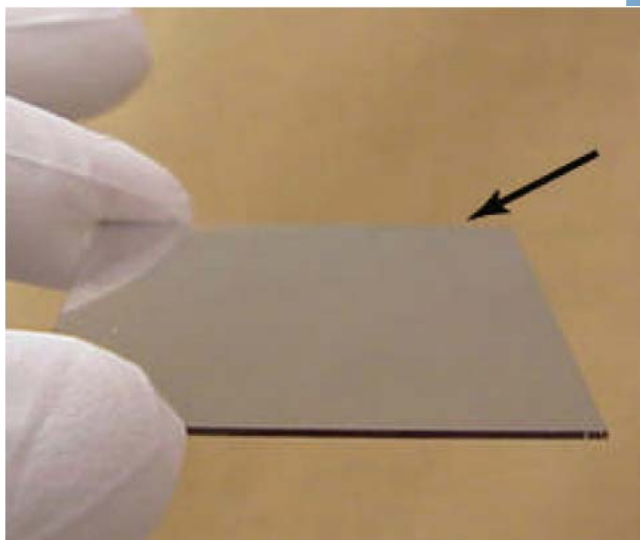
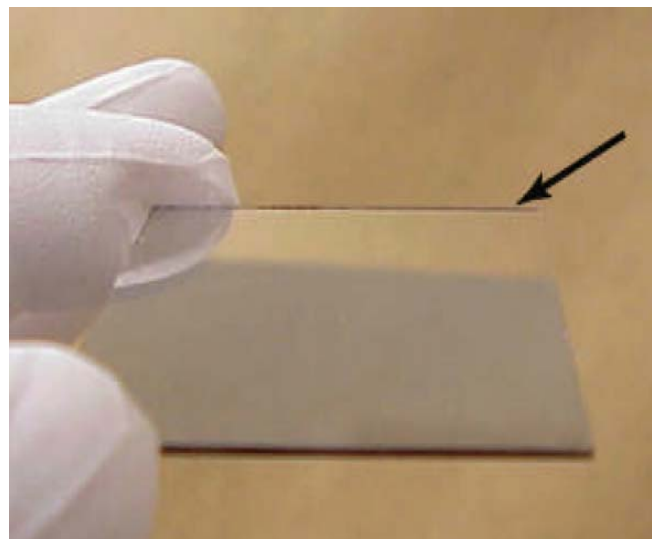

Fig. 1 Aluminum side on top
Fig. 2 Glass side on top
2. Avoid touching the aluminum-coated surface of the polarizer. When handling, grip the edges of the polarizer. To check which side has the MicroWire™ film, look at the edge of the part at a steep angle of incidence. If the edge is not visible, this is the aluminum side (Fig. 1). If the edge is visible, this is the glass side (Fig. 2).